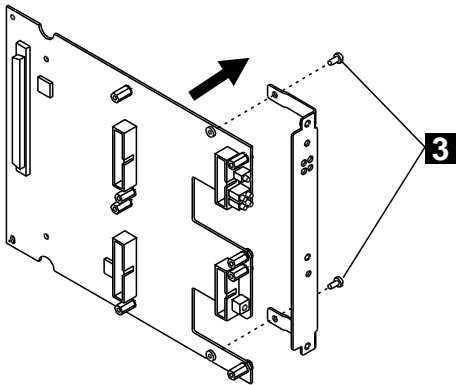

Figure 20. Removing the Dummy Faceplate Bracket
- **3** Remove the dummy faceplate bracket from the motherboard ( **3** in Figure 20), retaining the screws for the new bracket. Save the dummy bracket in a safe place for future reuse.